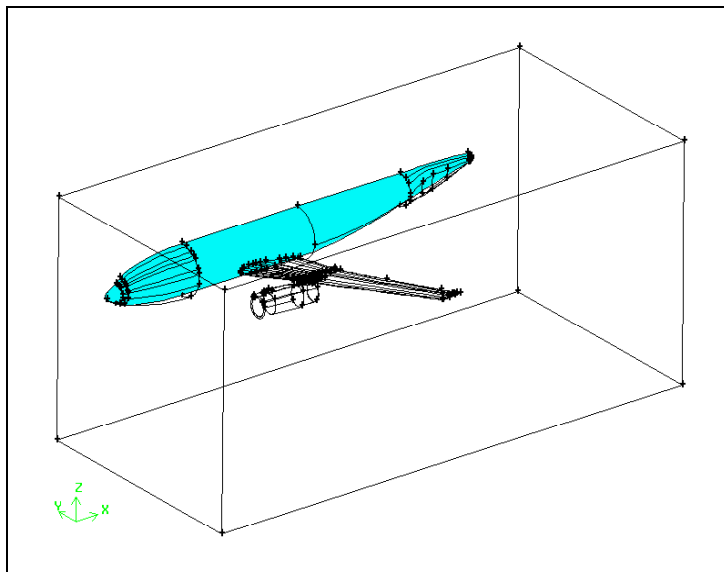

Figure 14-11: Flow volume and airplane symmetry face (shaded)
- h) Select all six faces of the brick and the airplane symmetry face (see Figure 14-11).